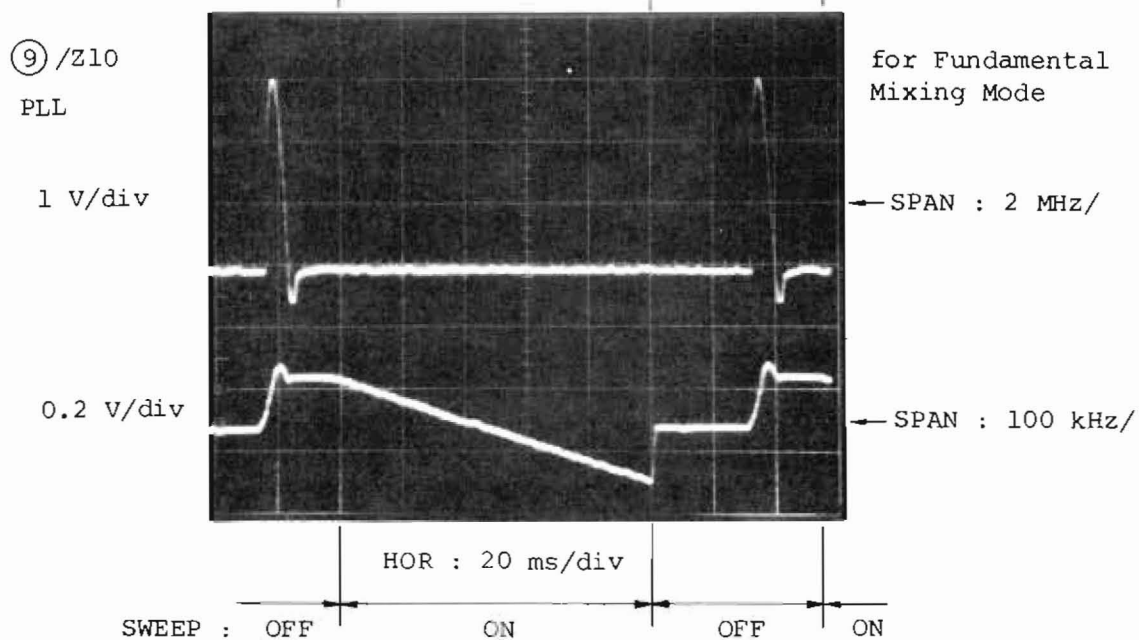

Fig. 5-15 YTO FM Coil Driver Check Points
10.	Observe the voltage at Z10 checkpoints ⑦ and ⑧ and confirm as shown in Fig. 5-15.
12.	If a normal status results in Item 11, the Z16 PLL block is assumed to be faulty. In a normal operation status, voltage ⑨ appears as the waveform shown in Fig. 5-15.
14.	Observe the voltage at checkpoint ⑨ and check it as the lower waveform shown in Fig. 5-15.
15.	Check the voltage at Z10 checkpoints ⑩ and ⑪ . If each voltage is approximately +6 V and +4 V under normal environmental conditions (ambient temperature of approximately 25°C), it is normal.